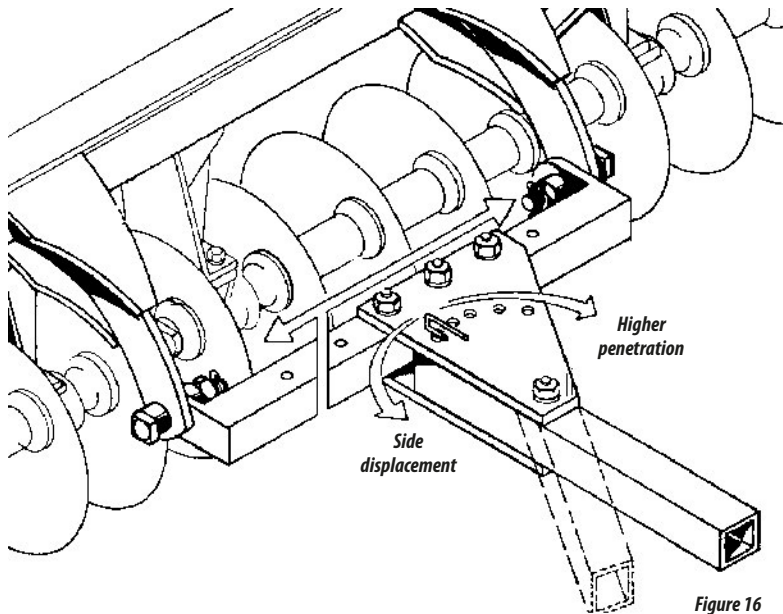

Figure 16
- 01 - This side displacement should be done when the disc harrow is not giving a perfect finishing, that is, leaving tractor trail. The disc harrow should work centralized with the tractor traction line. To do this, move the upper and lower header plates to the right or to the left, as shown in figure 16.